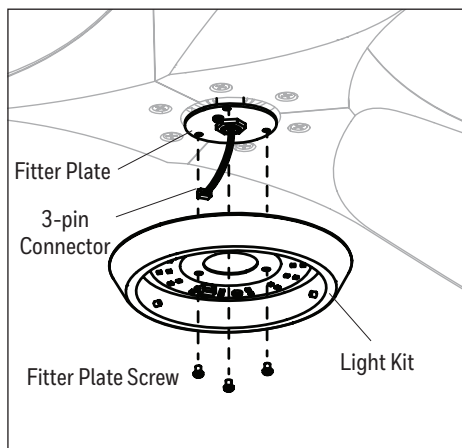

Figure 5.4
4. Remove the three fitter plate screws preassembled to the fitter plate. Feed the 3-pin connectors through the center hole in the light kit. Secure the light kit with the fitter plate screws (Figure 5.4).